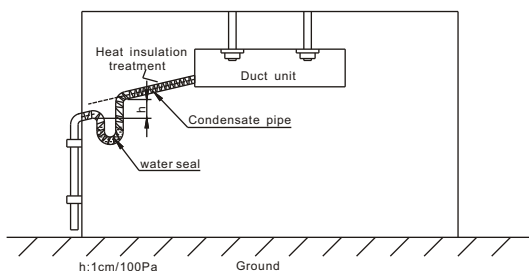

Fig 18
- After the installation of condensate pipes, leakage test must be carried out by pouring some water to confirm no leakage in any connecting point and the drainage is smooth . For the installation, please see Fig 18 :